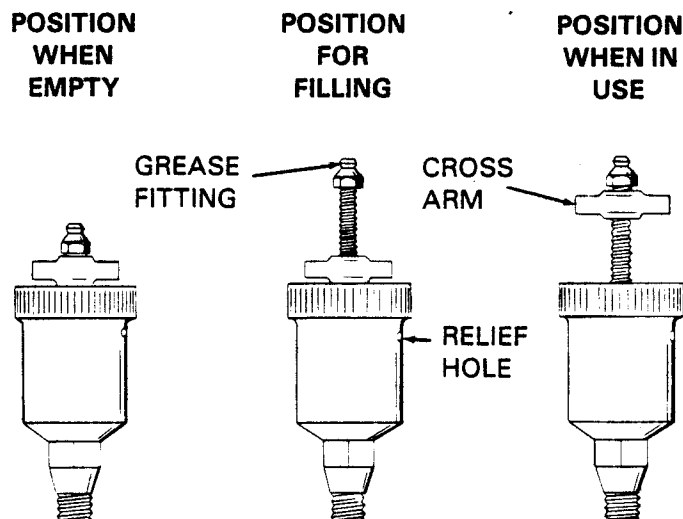

Figure 4. Automatic Lubricating Grease Cup
Before removing the seal assembly, turn the cross arm on the seal grease cup (6) clockwise until it rests against the cover (see figure 4). This will prevent the grease in the cup from escaping after the seal is removed.
Before starting the pump, fill the seal grease cup through the grease fitting with a good grade of No. 2 pressure gun grease until grease escapes from the relief hole. Turn the grease cup arm counterclockwise until it is at the top of the stem; this will release the spring to apply grease to the seal (see figure 4).